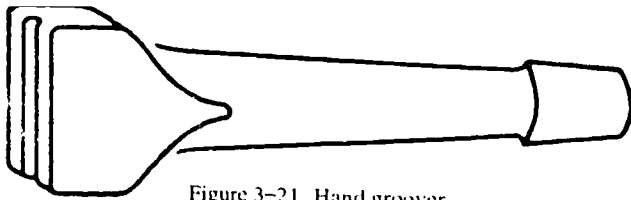

Figure 3-21. Hand groover.
**Hand groovers.** The hand groover, illustrated in figure 3-21, is used to groove seams after they have been formed.